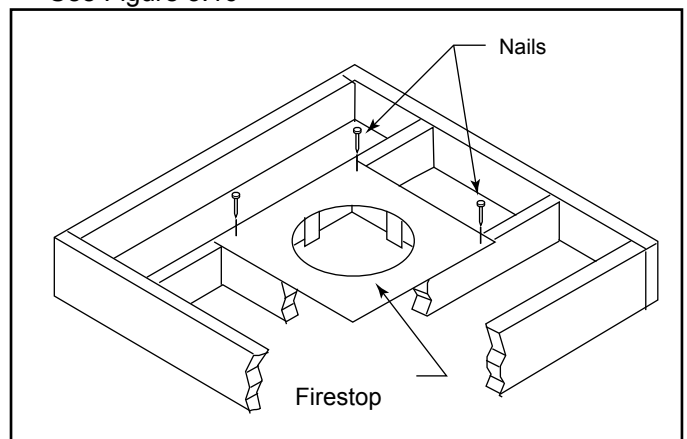

Figure 5.15 If Area Above is a Room, Install Firestop above Framed Hole as Shown
1. Determine the route your vertical venting will take. If ceiling joist, roof rafters or other framing will obstruct the venting system, consider an offset. See Figure 5.15 to avoid cutting load bearing members.
NOTE: Pay special attention to these installation instructions for required clearances (air space) to combustibles when passing through ceilings, walls, roofs, enclosures, attic rafters, etc. Do not pack air spaces with insulation. Also note maximum vertical rise of the venting system and any maximum horizontal offset limitations. Offsets must fall within the parameters shown in Figures 5.15 and 5.16.